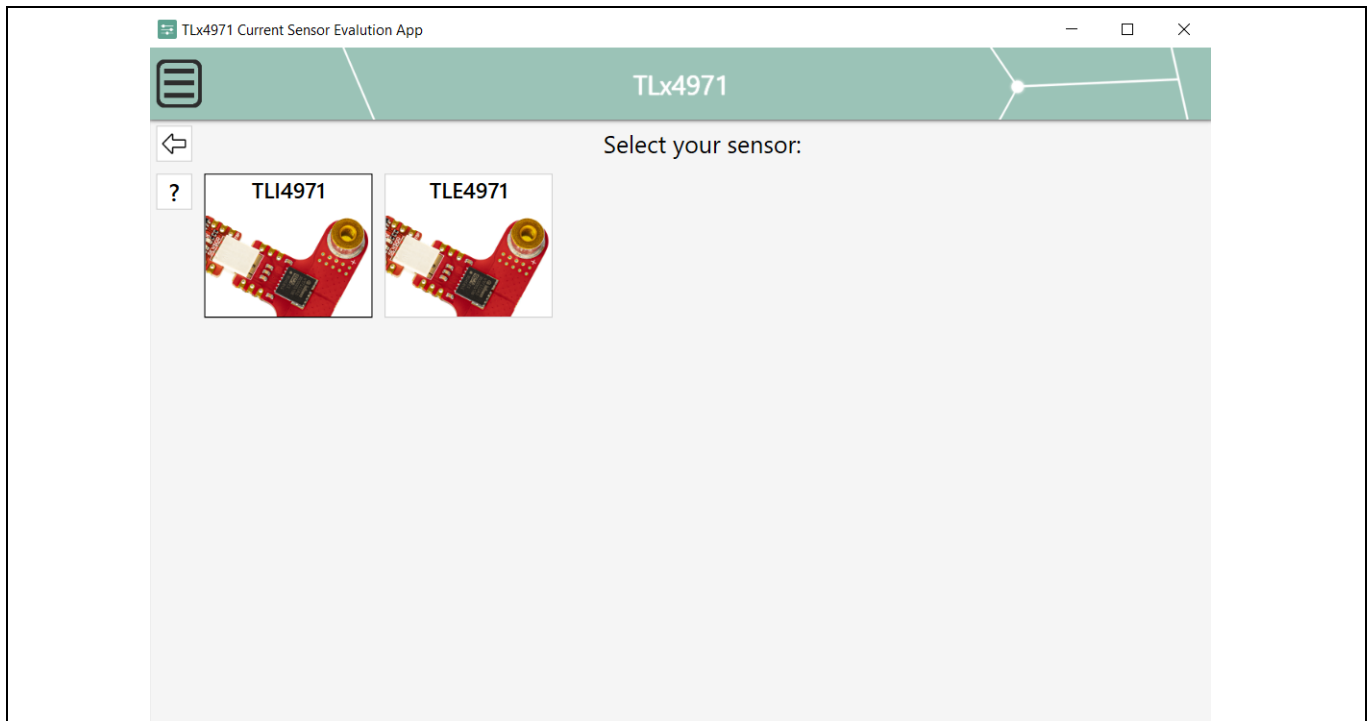

Figure 13 XMC Device: COM5 window: Sensor Selection
- Select the **“XMC Device: COM5”** option in the **“Programmer”** dialogue box as shown in the below Figure 13 which is highlighted with red color box.